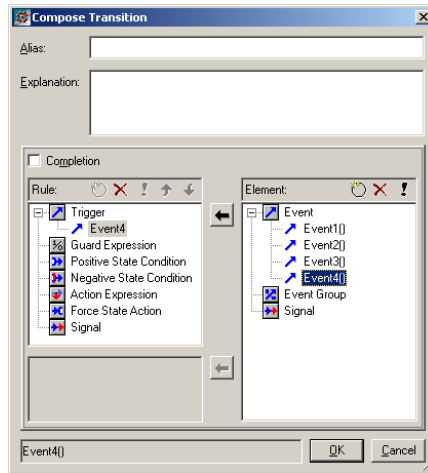

Figure 71: *Compose Transition* dialog box, event created and used as trigger
To delete an element from a transition, select the element to delete in the Rule section of the Compose Transition dialog box, and click the Delete button on the toolbar (see *Figure 71*, page 86).
- 5 Double-click the event in the Element section to apply it to the transition. See *Figure 71*, page 86.